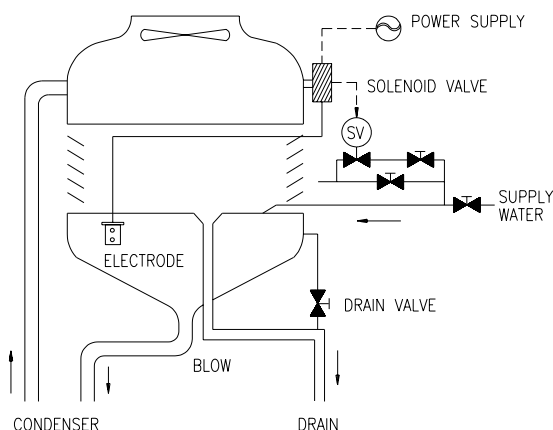

Fig. 6-6. Cooling Water Automatic Blow Unit
- (1) The blow control means the forced replacement of the cooling water in order to suppress the excessive concentrating of the circulating water (cooling water) in the cooling tower and to prevent to changing of pH value and the concentrating of corrosive matter and scale producing matter. In general, there are following methods.
- Automatic blow method (Fig. 6-6.) in which electrical conductivity of the cooling water is continuously detected to permit automatic blow.